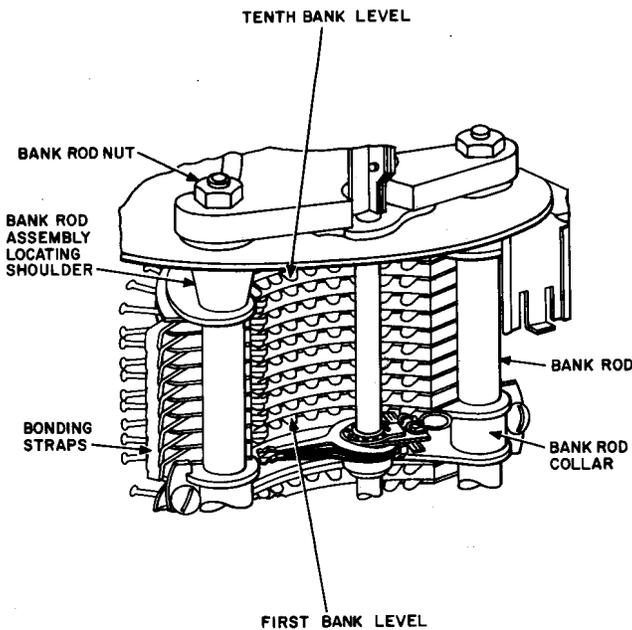

Fig. 3—Alignment of Wipers With Bank Levels
2.10 Alignment of Wipers With Bank Levels: Fig. 3